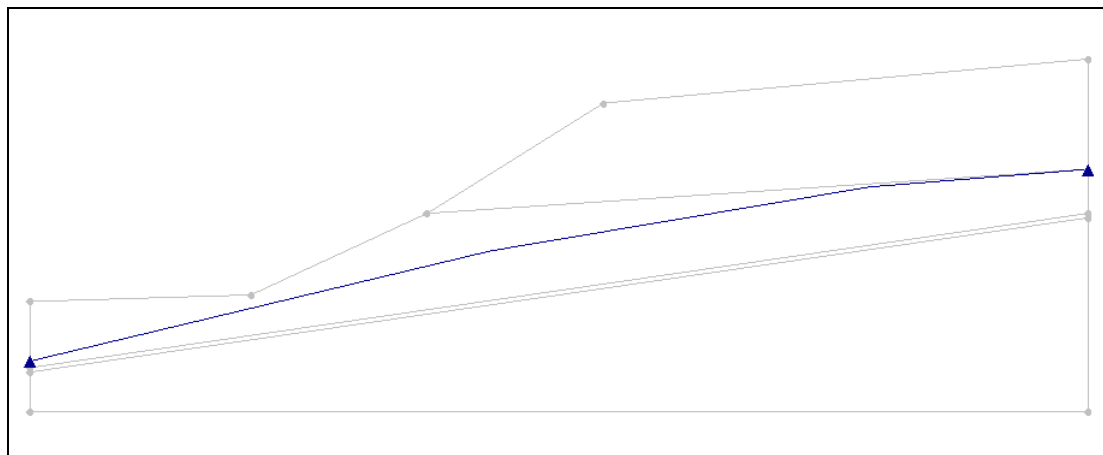

Figure 3. Piezometric Line.
In this model we use a piezometric line to define the pore water pressures (Figure 3). We'll create it now.
2. Connect the points to form the arcs shown in Figure 3.